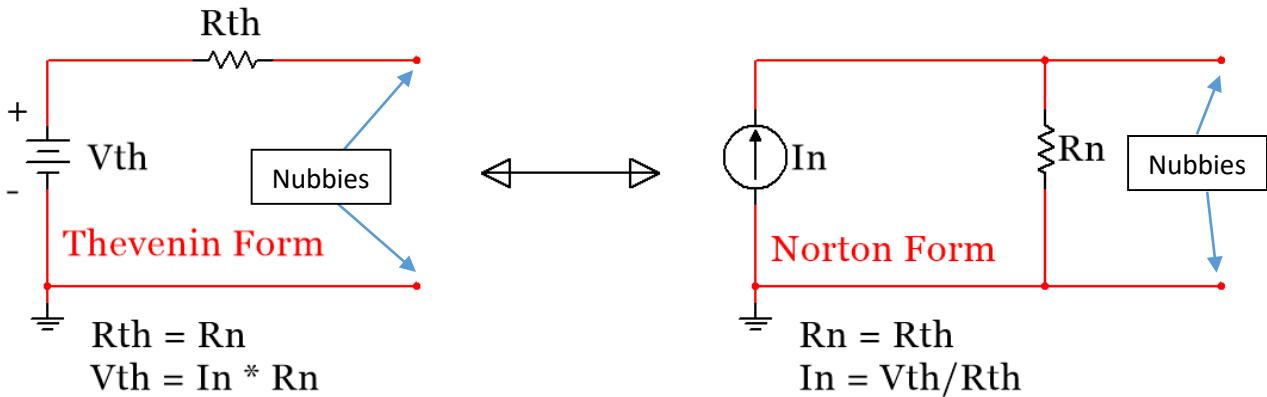
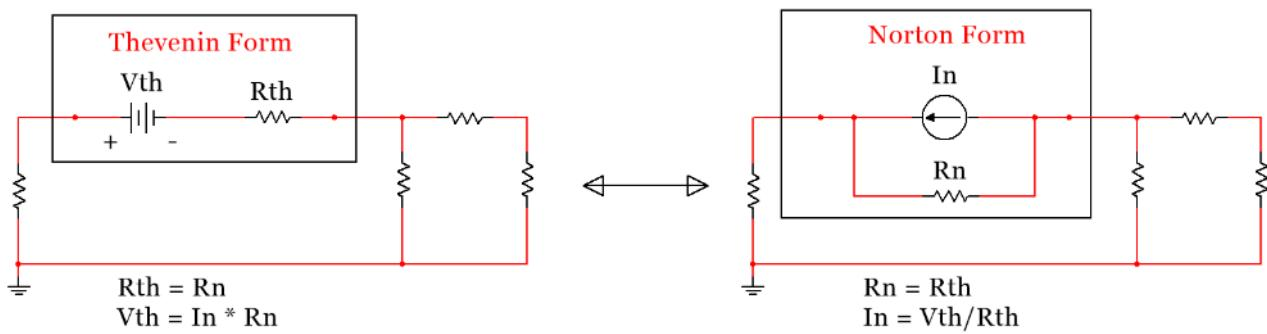
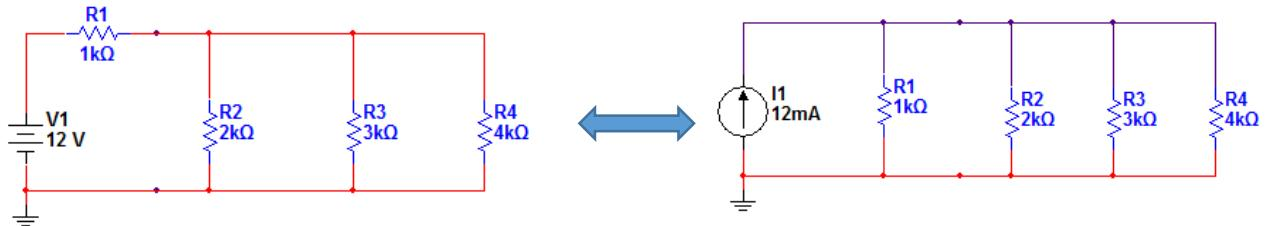

Figure 2.1: Source Transformation: Thevenin and Norton Form
Figure 2.2: Source Transformation: Location 2
Figure 2.4: Circuit for Example 2.1
A voltage source that is in series with a resistor as seen in the left side of Figure 2.1 is called Thevenin Form. A current source that is in parallel with a resistor as seen in the right side of Figure 2.1 is called Norton Form. This section shows how to convert a Thevenin Form to a Norton Form, and how to convert a Norton Form to a Thevenin Form.
4. Ohm's Law is used to transform the value of the source as shown below the circuits in Figure 2.1.
5. The polarity of the V_{th} and direction of I_N is determined as shown in Figure 2.1. The + side of the voltage source is on the same side as the head of the current source arrow.
Note: The two red dots in both the Thevenin and Norton Form shown in Figure 2.1 are significant. I have the strange habit of calling these red dots “Nubbies.” The point of doing a source transformation is that any combination of circuit elements that are added to those two dots will have exactly the same voltage and current values with either the Thevenin or Norton form of the source connected to them. For example, the voltages across resistors R2, R3, and R4 will be the same for both circuits shown in Figure 2.4. However, the voltage across R1 will **NOT** be the same for both of the circuits because it is not connected externally to the “Nubbies,” but is inside the source transformation.
Sometimes the voltage source or the current source isn’t in the exact location or polarity as shown in Figure 2.1 and students get confused on how to execute the transformation. Figures 2.2 and 2.3 show two other source transformations where the sources are located at different spots in the circuit. As long as the 5 rules shown above are followed the source can be transformed. Keep an eye on the Nubbies in these examples.
Example 2.1) Converting the circuit that has the source in Thevenin Form (on the left of Figure 2.4) to a current source in Norton Form will change this problem from a 3 loop mesh problem to a one node problem. Doing this simplification will result in a much easier problem as seen in Sections 2.3 and 2.4.
Answer: The Circuit on the right in Figure 2.4 shows the circuit transformed into Norton Form. The current source is equal to $I_1 = V_1/1k = 12 \text{ mA}$.